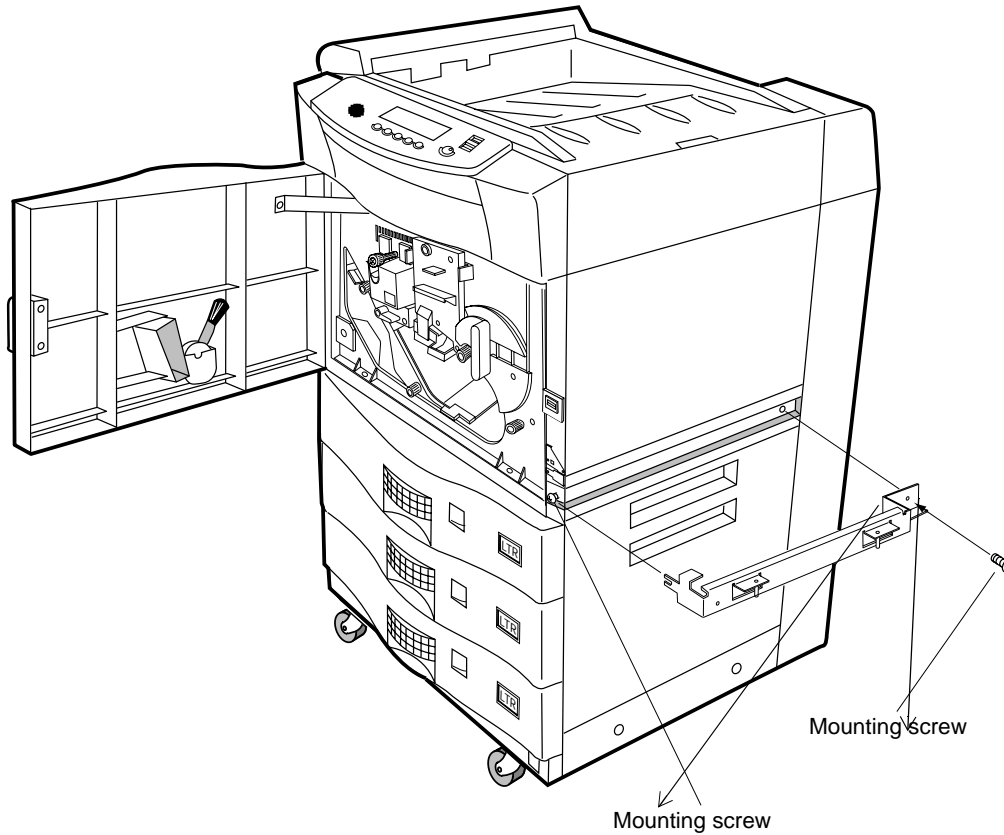

Figure 4-5 Attaching the paper guide
5. Attach the paper guide to the printer, and secure with the two mounting screws, as shown in Figure 4-5.